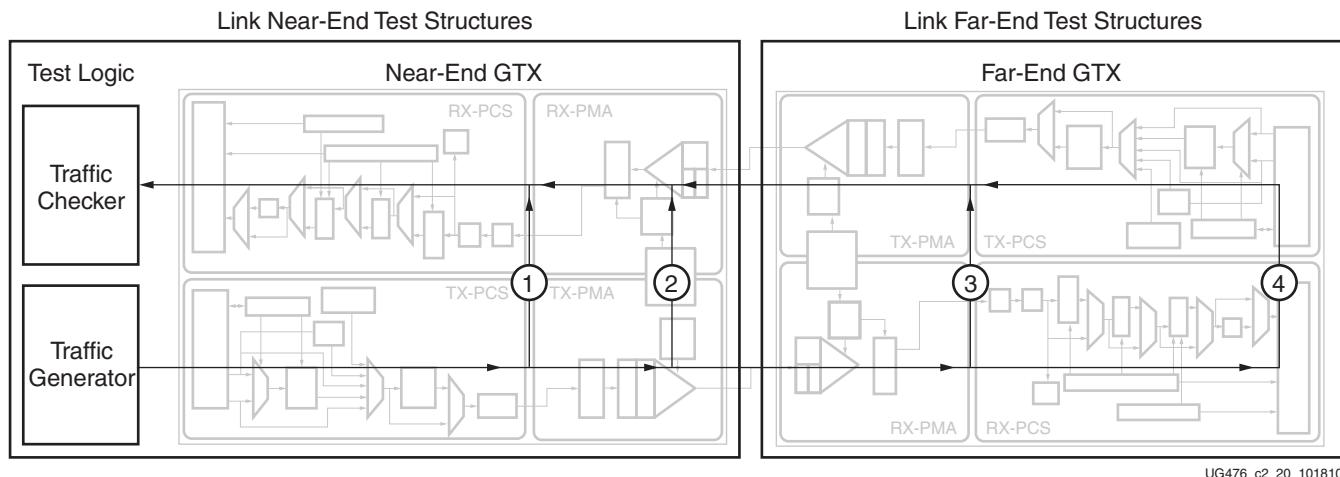

Figure 2-26: Loopback Testing Overview
Loopback modes are specialized configurations of the transceiver datapath where the traffic stream is folded back to the source. Typically, a specific traffic pattern is transmitted and then compared to check for errors. Figure 2-26 illustrates a loopback test configuration with four different loopback modes.
- Near-End PCS Loopback (path 1 in Figure 2-26)
- Near-End PMA Loopback (path 2 in Figure 2-26)
- Far-End PMA Loopback (path 3 in Figure 2-26)
- Far-End PCS Loopback (path 4 in Figure 2-26)